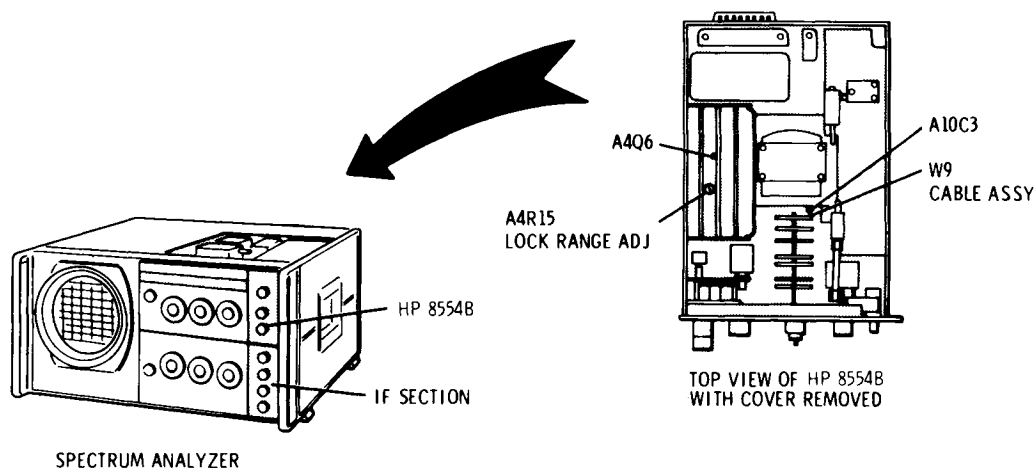

Figure 5-16. Lock Range Check and Adjustment Test Setup
3. With the test setup connected as shown in Figure 5-16, make the the following control settings: